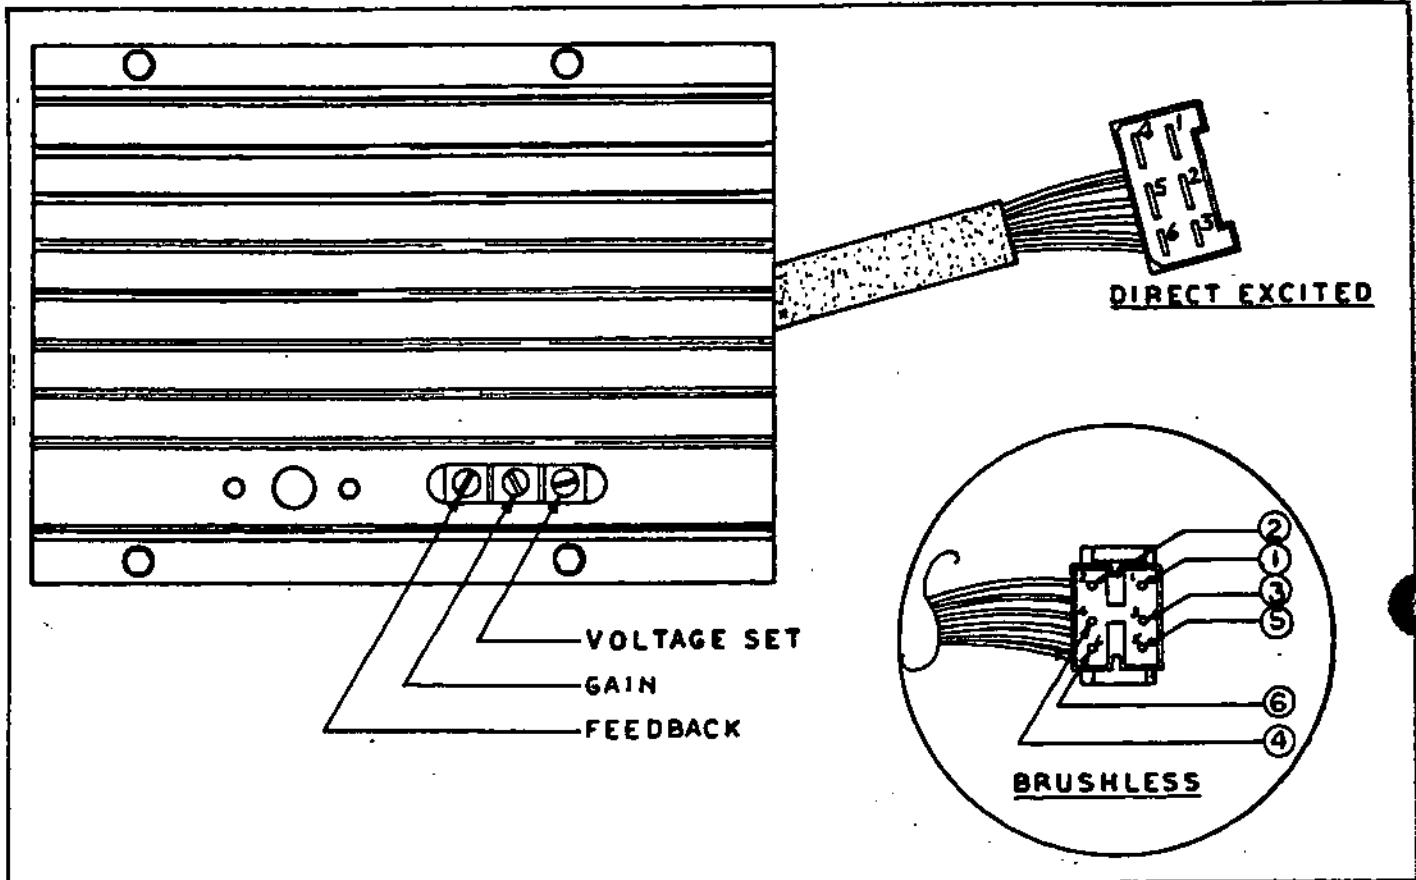

Figure 4.4-A. Voltage Regulator Adjustments
4.4.1- GENERAL (Figure 4.4-A)
4.4.2- VOLTAGE REGULATOR ADJUSTMENT PROCEDURE (Figure 4.4-A)